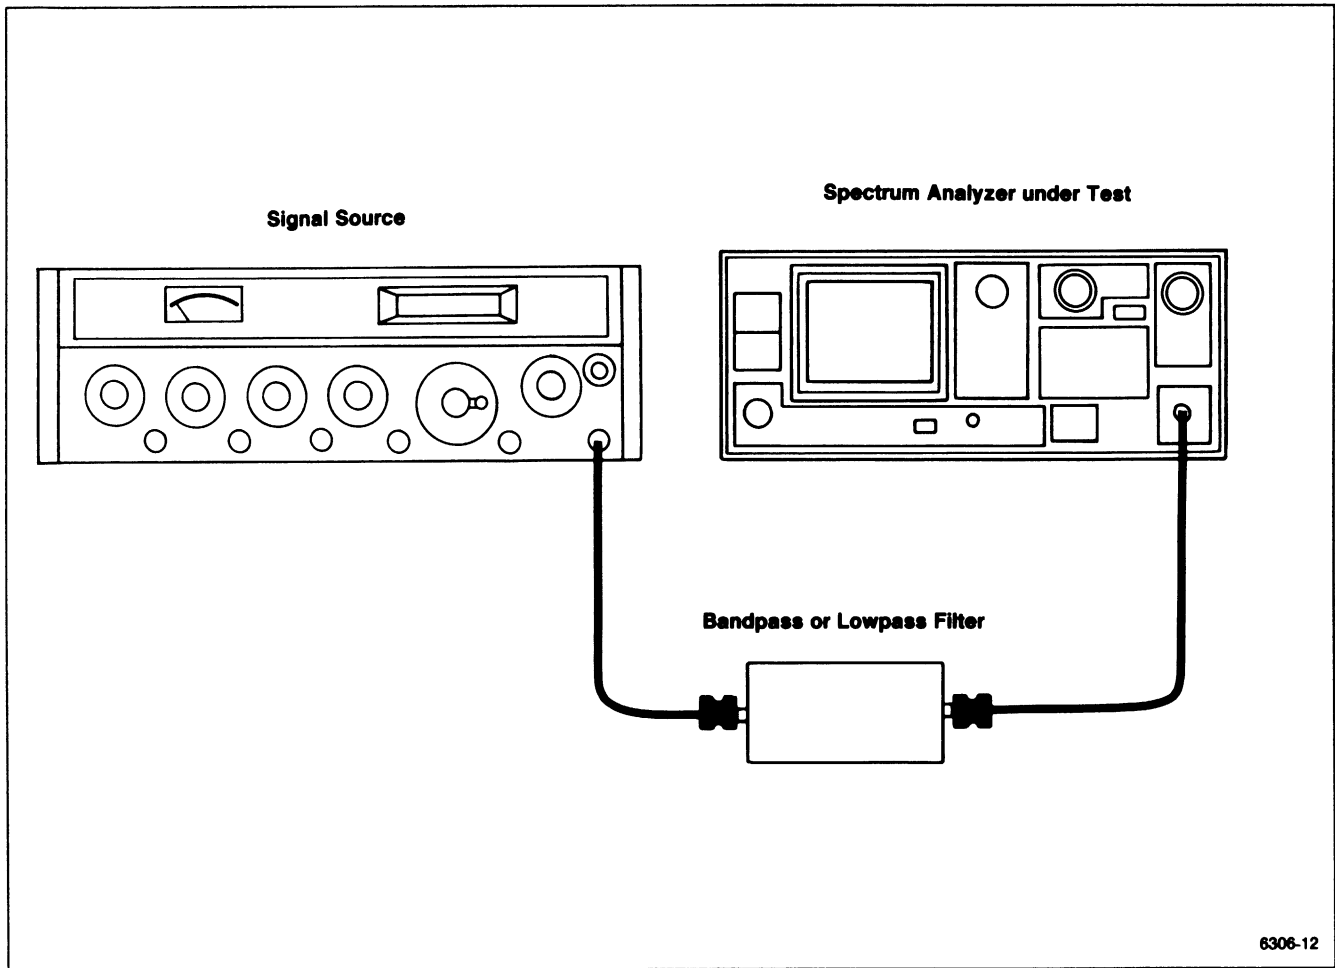

Figure 4-15. Test equipment setup for checking harmonic distortion.
a. Connect the test equipment as shown in Figure 4-15, and set the Spectrum Analyzer controls as follows:
In Figure 4-15, the filter shown must have a minimum of 40 dB rolloff to attenuate multiples of the generator frequency, and the frequency of the signal generator depends on the frequency characteristics of the filter.